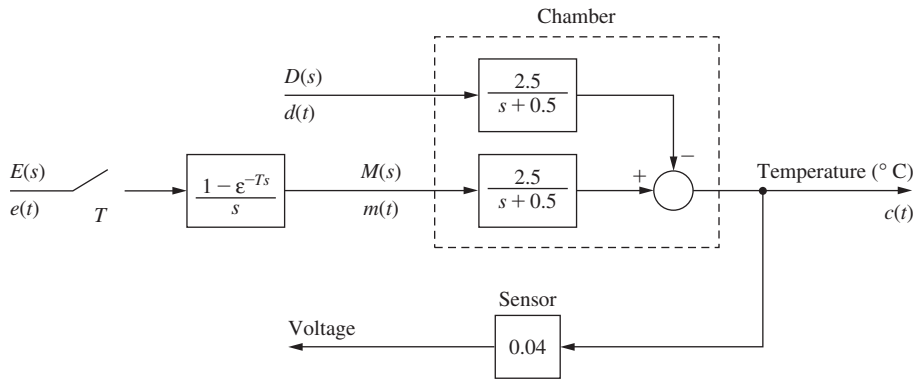

FIGURE P4.3-9 Block diagram for a thermal test chamber.
4.3-9 Fig. P4.3-9 illustrates a thermal stress chamber. This system is described in Problem 1.6-1. The system output $c(t)$ is the chamber temperature in degrees Celsius, and the control-voltage input $m(t)$ operates a valve on a steam line. The sensor is based on a thermistor, which is a temperature-sensitive resistor. The disturbance input $d(t)$ models the opening of the door into the chamber. With the door closed, $d(t) = 0$; if the door is opened at $t = t_0$, $d(t) = u(t - t_0)$, a unit-step function.
- Suppose that the sampling-and-data-reconstruction process is implemented with an analog-to-digital converter (A/D) and a digital-to-analog converter (D/A). Redraw Fig. P4.3-9 showing the A/D and the D/A.
- Find the unit step response for the system of Fig. P4.3-9; that is, find $c(kT)$ with $e(t) = u(t)$ and $d(t) = 0$, and with no delay.